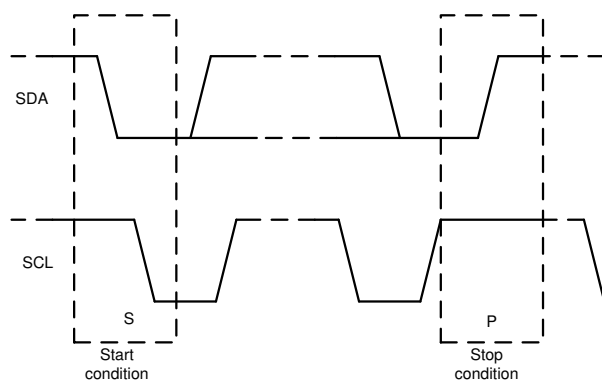

图 7-19. Start and Stop Conditions
1. The controller initiates data transfer by generating a start condition. 图 7-19 shows that the start condition is when a high-to-low transition occurs on the SDA line while SCL is high. All I²C-compatible devices recognize a start condition.
4. 图 7-19 shows that to signal the end of the data transfer, the controller generates a stop condition by pulling the SDA line from low-to-high while the SCL line is high. This action releases the bus and stops the communication link with the addressed target. All I²C-compatible devices recognize the stop condition. Upon receipt of a stop condition, the bus is released, and all target devices then wait for a start condition followed by a matching address.